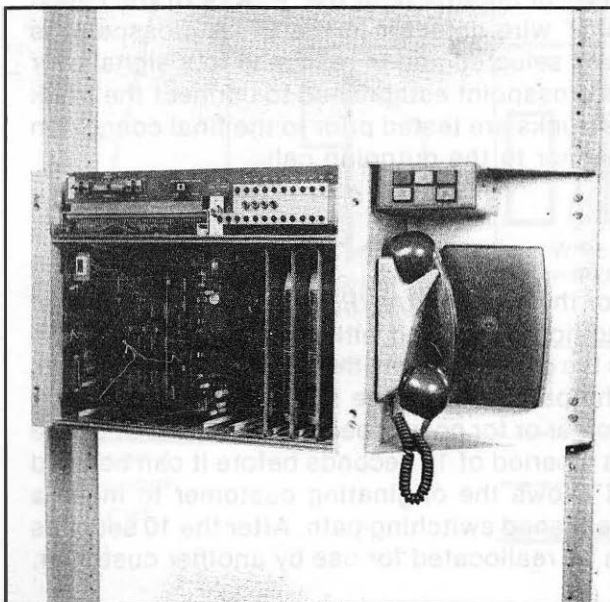

Fig 2 Exchange Terminal
The Exchange Terminal (ET) comprises Control and Switching equipment mounted on printed circuit boards known as Apparatus Slide in Units (ASUs). The complete unit is normally mounted on the Miscellaneous Equipment Rack or the Miscellaneous Electronic Equipment Rack depending on the type of exchange (see Fig 2). Special arrangements are available for UAX13.